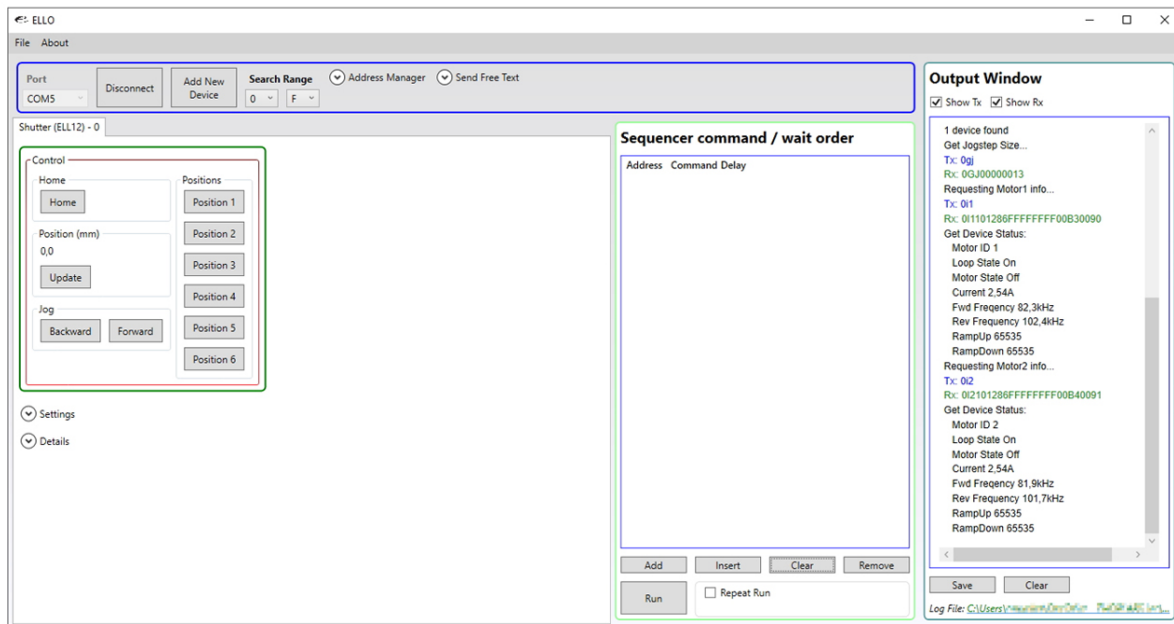

Figure 7 Main GUI Panel
9. The GUI and device are now ready for use. Click the position buttons to move to each position as shown in Figure 7 (0 on the right-hand side of the slider through to 3 on the left-hand side).